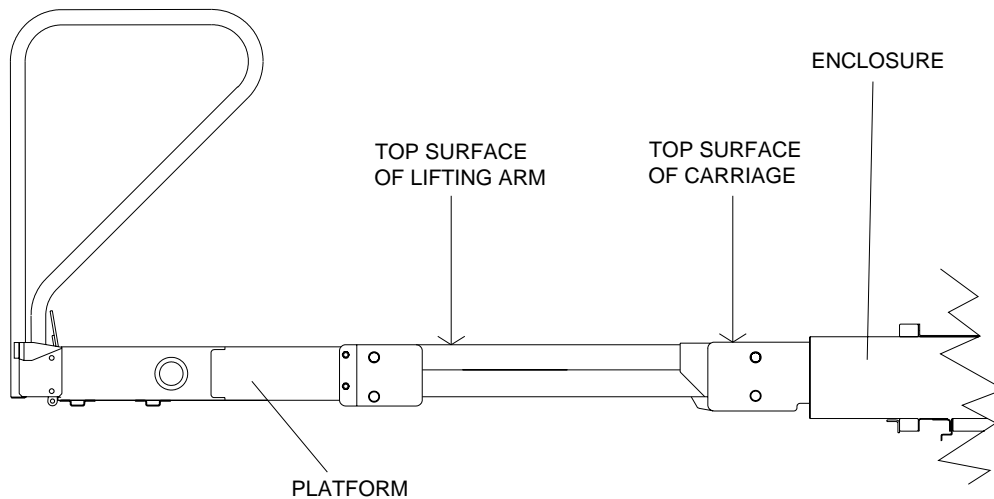

Figure 1: Lifting Arms and Carriage at Same Height
- b. Refer to **Figure 1**. Use the manual back-up pump in combination with the manual pressure release valve to position the top surface of the platform lifting arms at the same height as the top surface of the carriage. This alignment minimizes interference between the platform and enclosure during the stow movement.